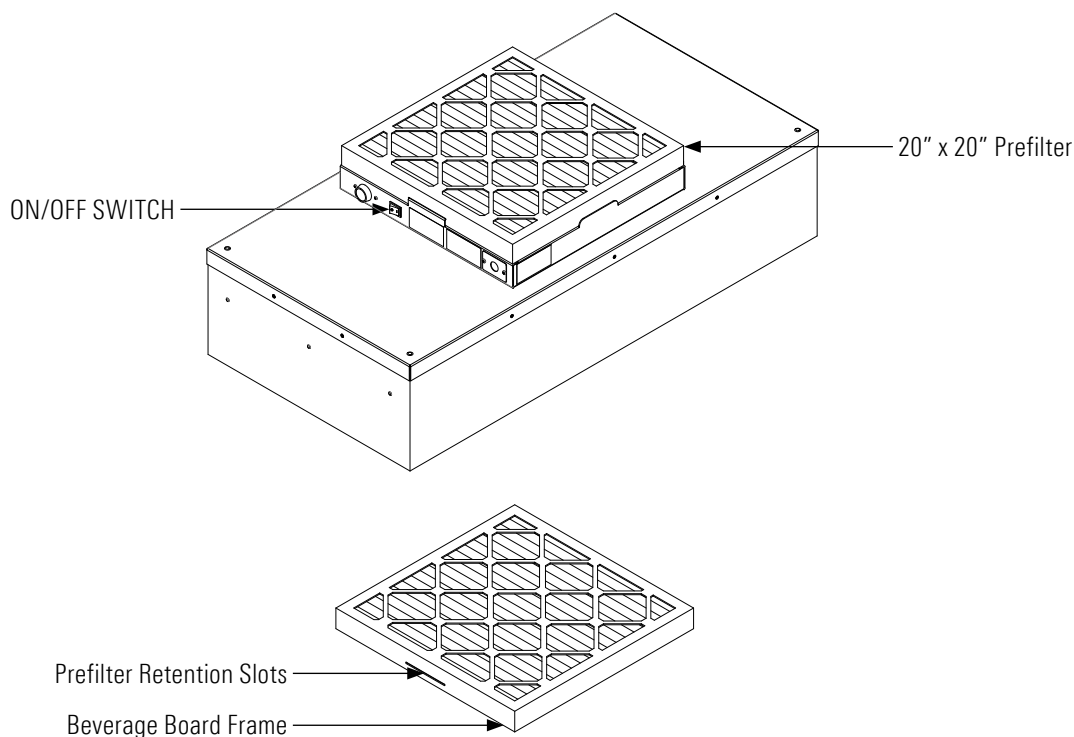

FIGURE 5: G4 PREFILTER PLACEMENT
Step 3. Remove the prefilter from the snap-in frame. The beverage board frame has slots that have to be depressed to release the filter from the prefilter housing (See Figure 5, below.)